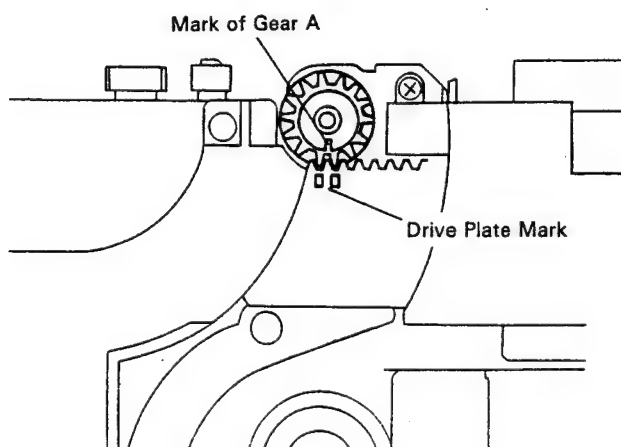
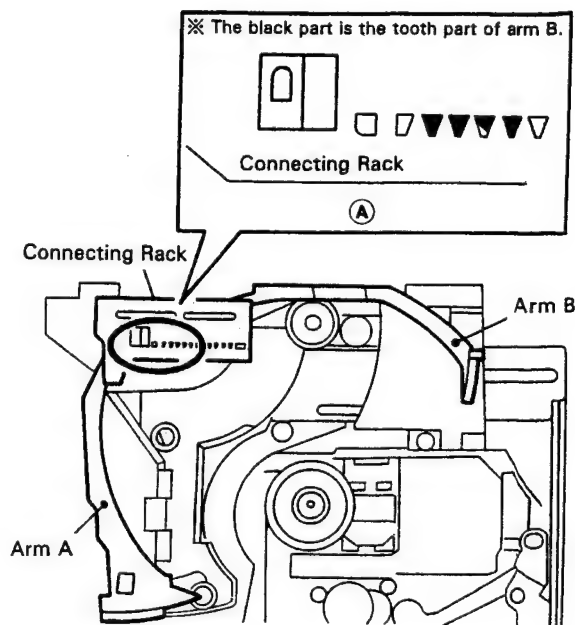

Fig. 4-5
Fig. 4-6
Confirm correct positioning of the drive plate mark and the mark of gear A as shown in Fig. 4-5. If the position is not correct, turn the worm [refer to "4.3 REMOVAL OF BELT A"] to obtain the correct position. Also, install arm A and arm B as shown in Fig. 4-6 and position the connecting rack as shown in Fig. 4-6 (refer to ①), seen from above.